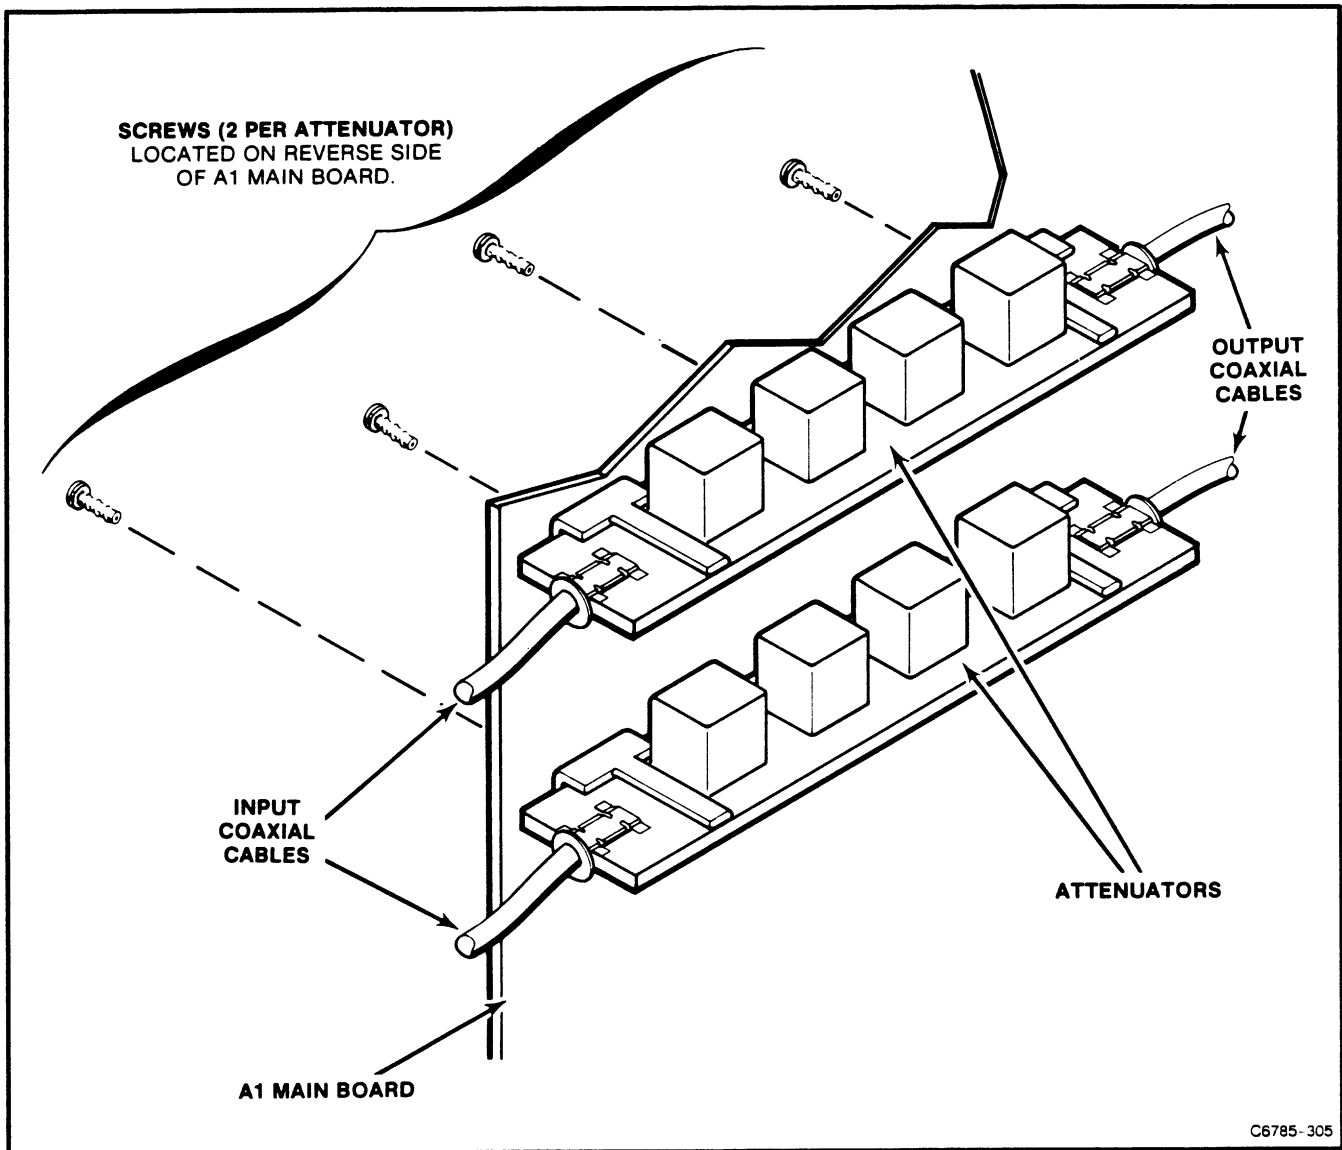

Figure 3-5. Location of the screws and parts for removal of an attenuator.
5. Plug the coaxial connectors into the input and output of the attenuator (refer to Fig. 3-5). Care is necessary when engaging these connectors. For best results, proceed as follows: